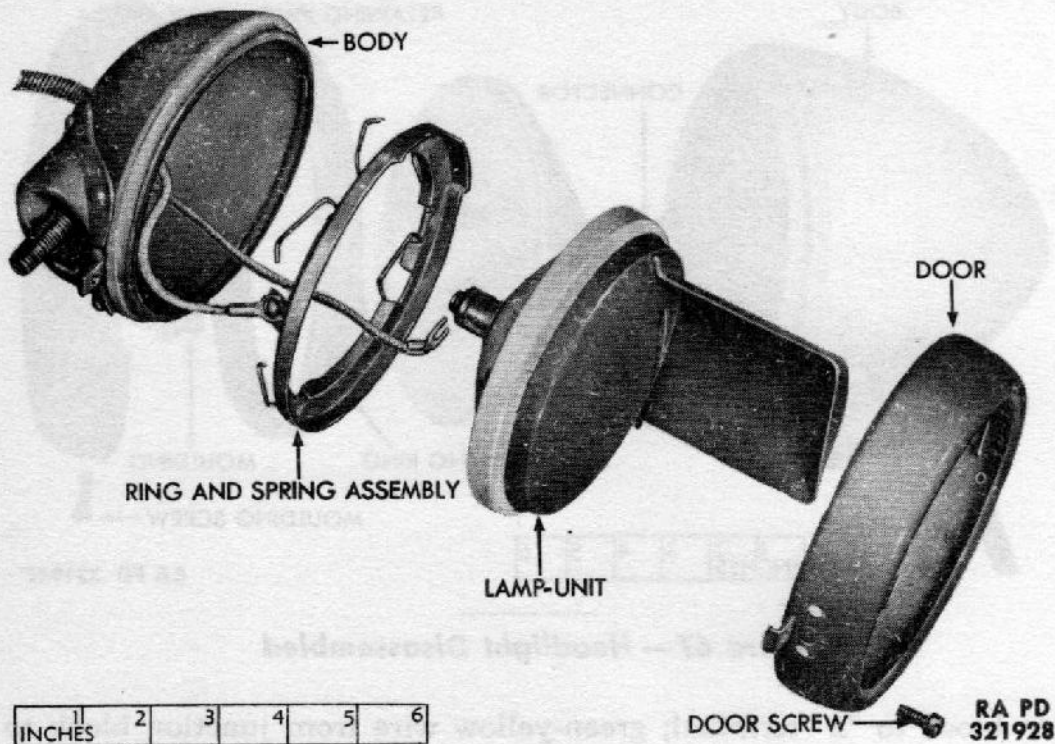

Figure 68 – Blackout Driving Light Disassembled
(1) **DESCRIPTION** (fig. 68). Blackout driving light is attached to cowl above left headlight. It is used during blackouts to give enough light to operate vehicle without being observed from above. The lens is opaque, except for a small area at the top which is covered by a shield. Bulb, reflector, lens, and shield are constructed to constitute one sealed beam lamp-unit.
(2) TABULATED DATA.
b. **Replace Sealed Beam Unit** (fig. 68). Remove the screw which secures door to body. Remove door and sealed beam lamp-unit from body. Remove ring and spring assembly from door. Lift sealed beam unit from door. Disconnect wire from terminal at rear center of unit. Attach wire to terminal of new unit. Position unit in door. Install ring and spring assembly. Position door to body, and secure with door screw.
c. Removal (fig. 68).
(1) **DISCONNECT WIRE.** Disengage wire from blackout driving light switch (fig. 68). Attach a 6-foot wire or cord to end of wire. Attach other end of cord to steering tube support bracket.
d. Installation (fig. 68).